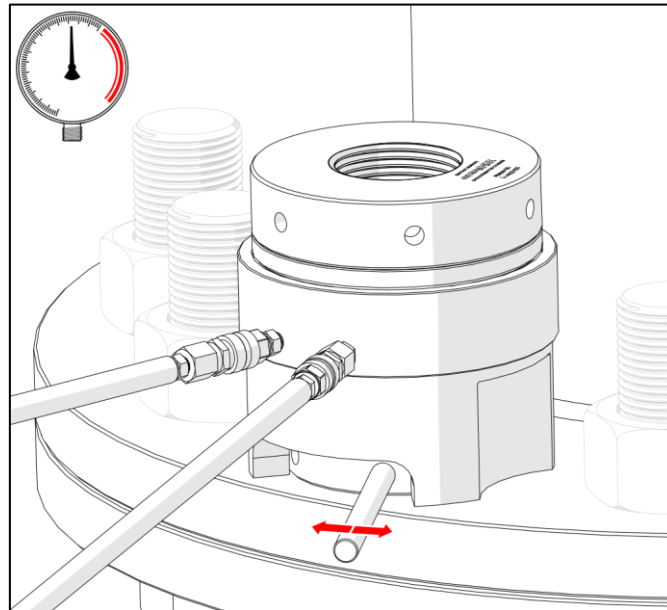

Figure 6.2 - Setting / Releasing the Nut
6.4 Setting / Releasing the Nut/s. (Figure 6.2)